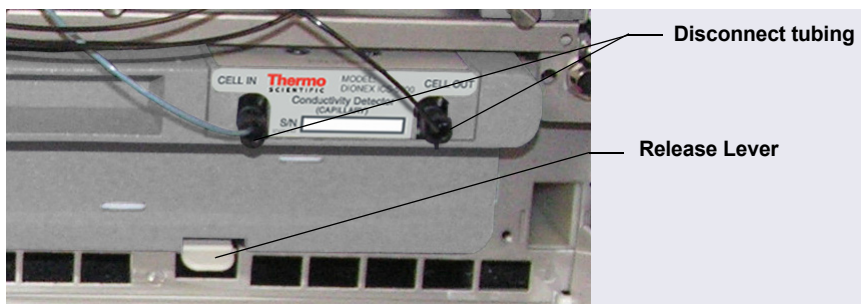

Figure 10-58. Disconnecting the CD Liquid Lines (Capillary CD Shown)
3. Open the DC upper door and disconnect the tubing from the CD **CELL IN** and **CELL OUT** ports (see Figure 10-58).
5. Press the release lever located below the detector (see Figure 10-58). The detector pops out slightly from the DC compartment. Grasp the top of the detector and pull outward to remove the detector from the compartment. **Do not pull from the CELL IN and CELL OUT fittings.**